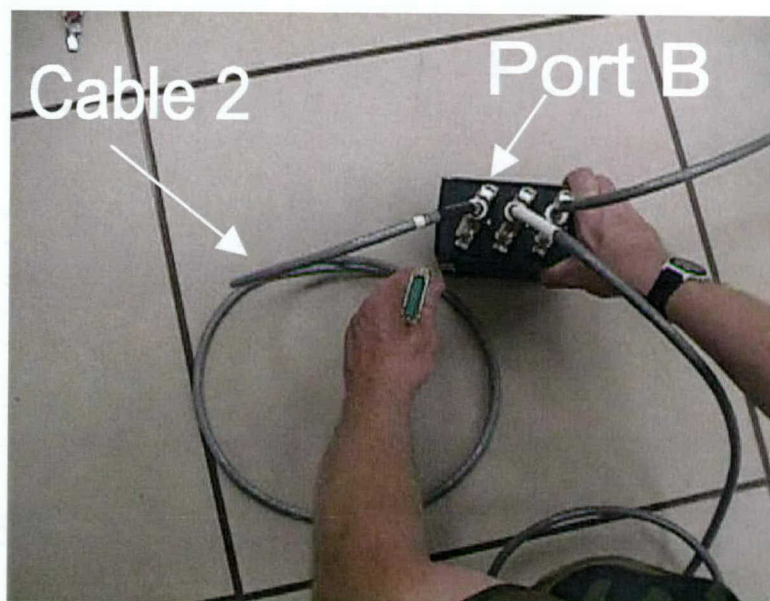

Figure 29. Cable 2
- b. Cable 2 consists of a 25-pin male connector and 37-pin male connector (Figure 29). The 37-pin male connector plugs directly into Port B on the rear of the switchbox. The other cable end, a 25-pin male connector, plugs directly into the ViewStation interface box. The box contains two ports; always use Port 1. The opposite end of the interface box has a green jack, which has already been connected to the ViewStation in earlier steps of this setup.